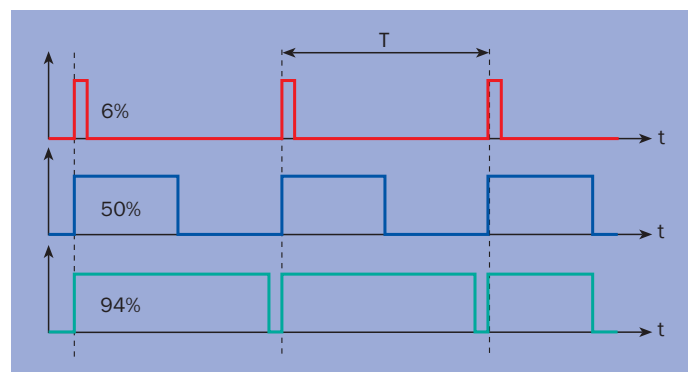

Fig. 4. Pulse-width modulation.
- **Pulse-width modulation (PWM):** this technique uses a fixed frequency of period T (figure 4). The dimming is achieved by varying the pulse width. Figure 4 shows three different luminosity levels, with duty cycles of 6%, 50%, and 94%.